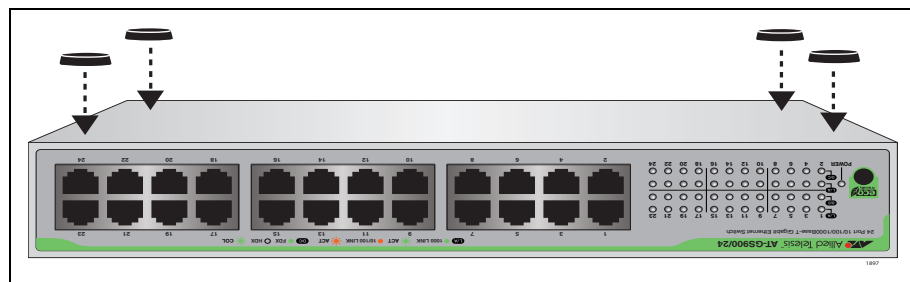

Figure 5. Attaching the Rubber Feet
2. Attach the four self-adhesive rubber feet to the bottom of the switch, as shown in Figure 5.